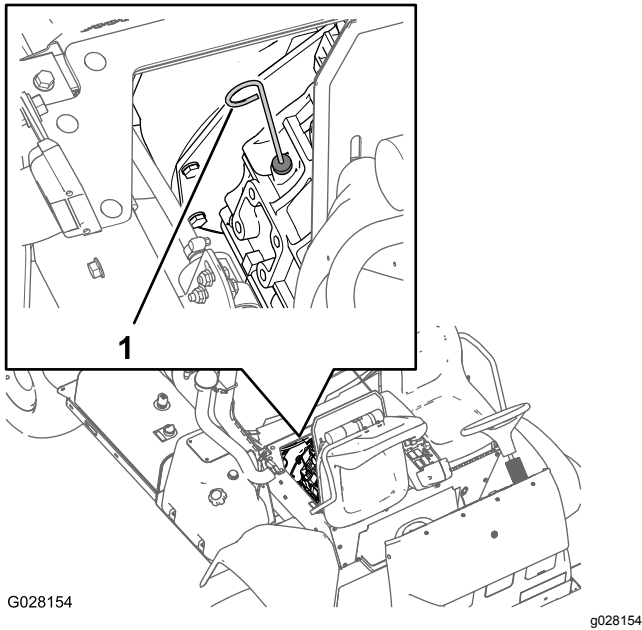

Figure 72
6. Remove the dipstick and check the oil level in the engine (Figure 72).
7. Slowly add additional specified oil to bring the oil level to the Full mark on the dipstick (Figure 72).